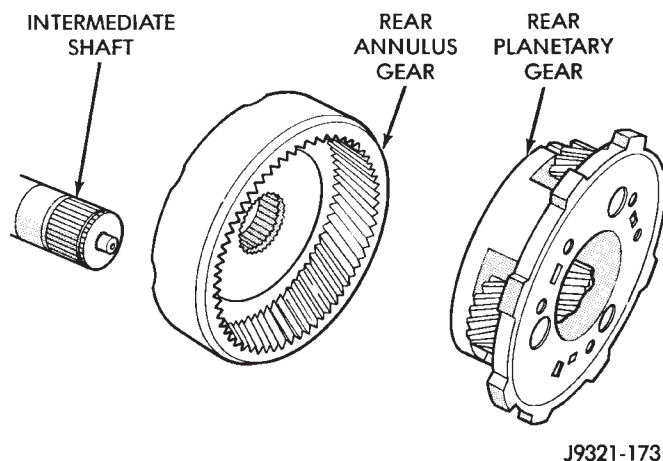

Fig. 177 Rear Planetary And Annulus Gear Removal
(7) Remove rear planetary gear and rear annulus gear from intermediate shaft (Fig. 177).